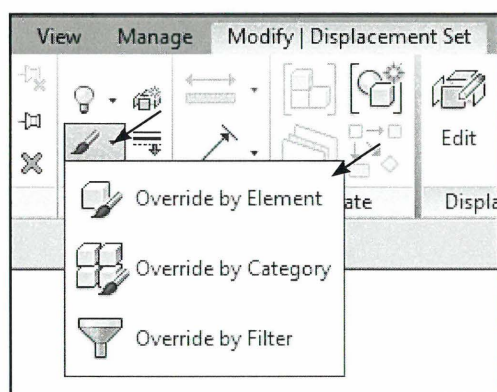

Fig. 15.29. Override by Element.
- Klik På *Override Graphics in View-Override by Element* (Fig. 15.29).